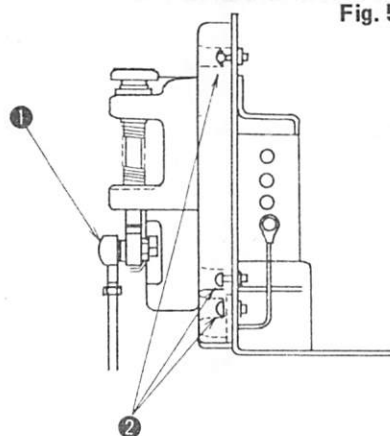

Fig. 5-4
- 4) Remove the pedal connecting bar (Fig. 5-4 ①) from the pedal lever (using two spanners for M10).
- 5) Remove the four screws attaching the pedal sensor (Fig. 5-4 ②), then remove the pedal sensor set from the PSC box.